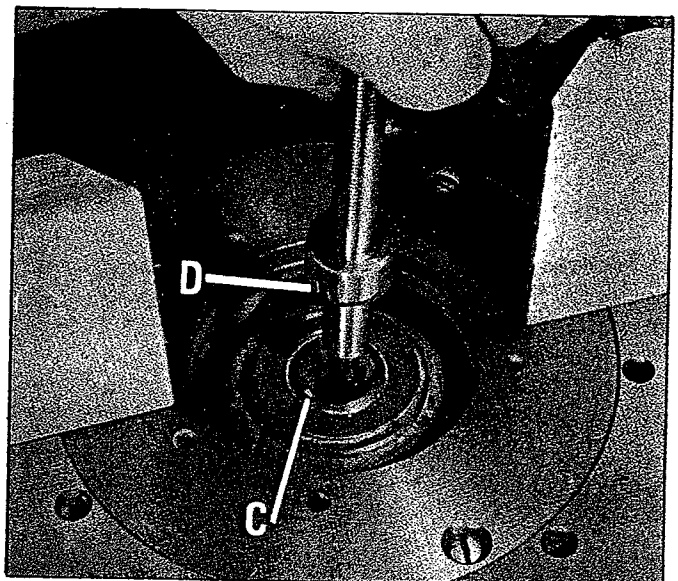

Fig. 10
2. Insert tie rod and spindle into the spindle cartridge making sure the pin (C) Fig. 10, in the spindle cartridge is engaged with notch (D) in the spindle.